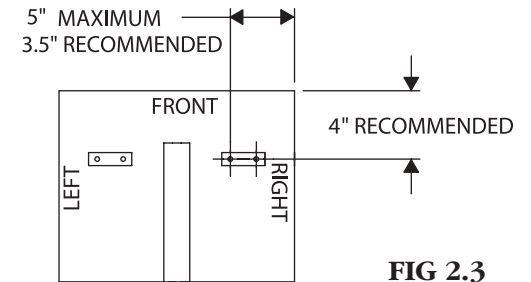

FIG 2.3
3. To use the suggested mounting location, see FIG 2.3. You may mount on left or right.